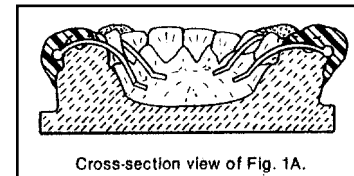

Fig. 1A
1. Prepare wires, retainers, retentive mesh, etc. in the normal manner. Allow approximately 0.5 mm space between the metal retention and the cast surface (Figure 1A). Thoroughly clean metal portions of appliances by brushing with methyl methacrylate monomer liquid or ethyl alcohol. Allow to air dry while the cast is being prepared.